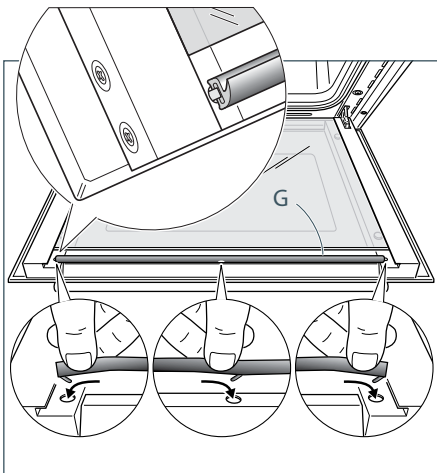

Fig.61e
- Replace the seal "G" by hooking in the three fixing hooks. Make sure that you put it in the correct way (Fig. 61e).